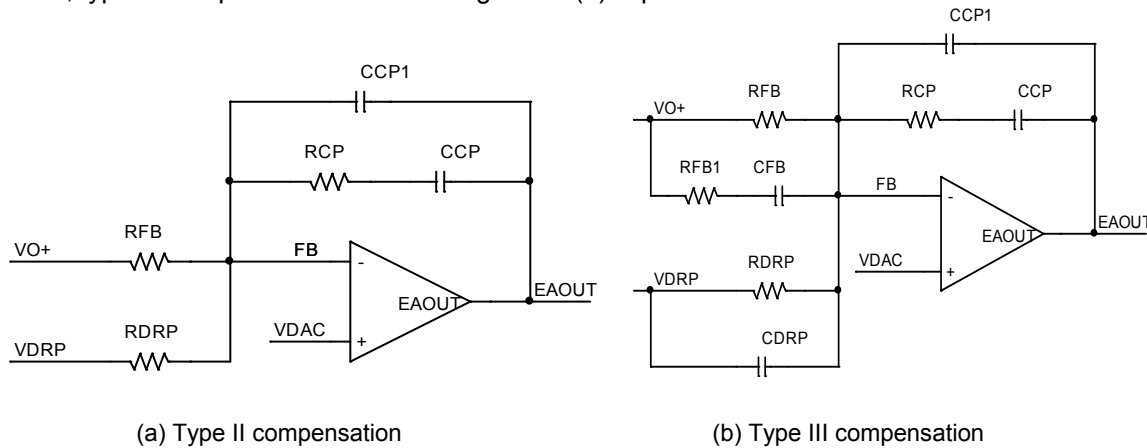

Figure 20: Voltage Loop Compensation Networks
Resistors  $R_{FB}$  and  $R_{DRP}$  are chosen according to Equations (15) and (16), and the selection of compensation type depends on the capacitors used. For the applications using Electrolytic, Polymer or AL-Polymer capacitors, type II compensation shown in Figure 20 (a) is usually enough. While for the applications with only ceramic capacitors, type III compensation shown in Figure 20 (b) is preferred.